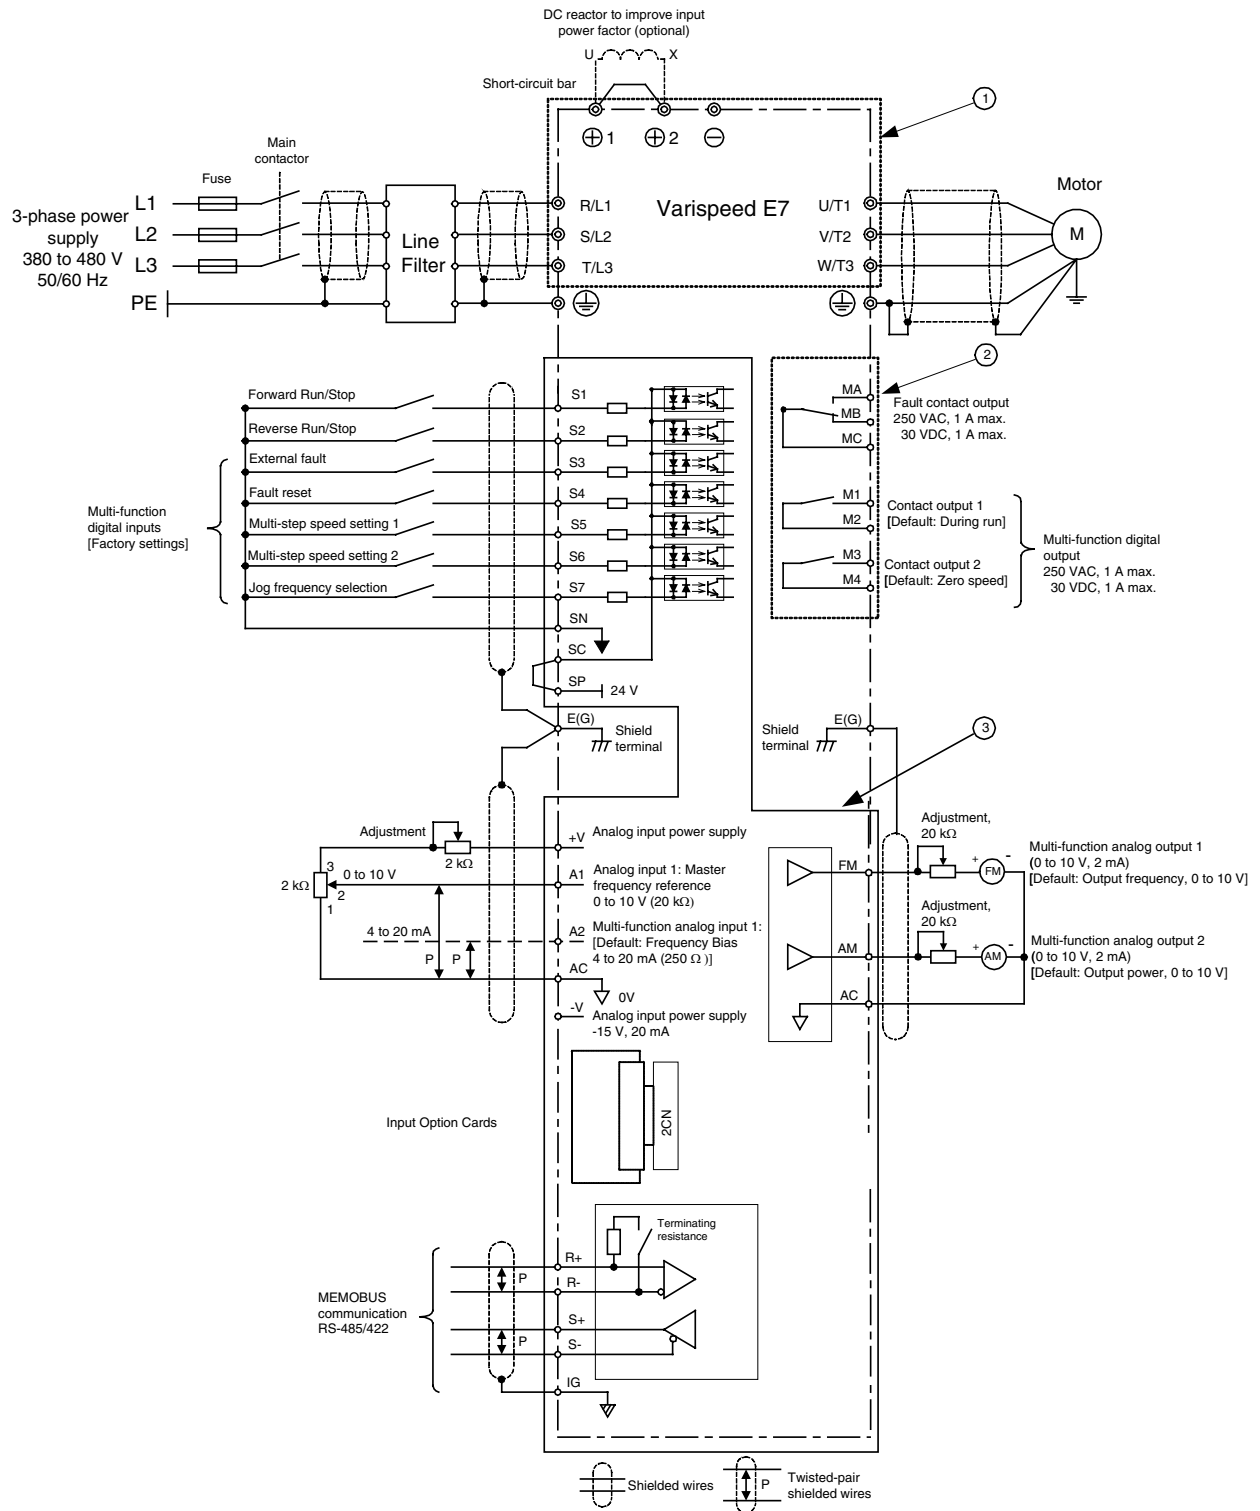

Fig 4 Wiring Diagram
- In Fig 4 the wiring of the digital inputs S1 to S7 is shown for the connection of contacts or NPN transistors (0V common and sinking mode). This is the default setting. For the connection of PNP transistors or for using a 24V external power supply, refer to Table 3.